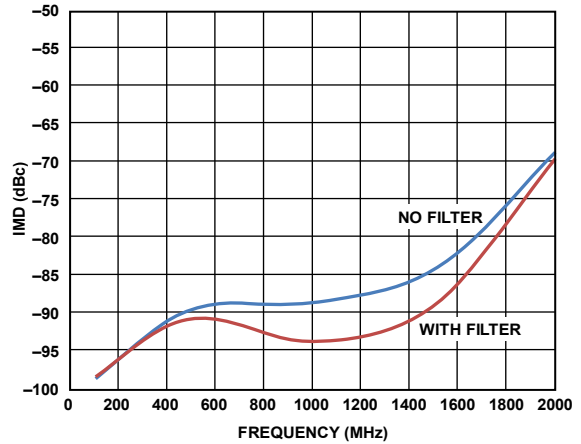
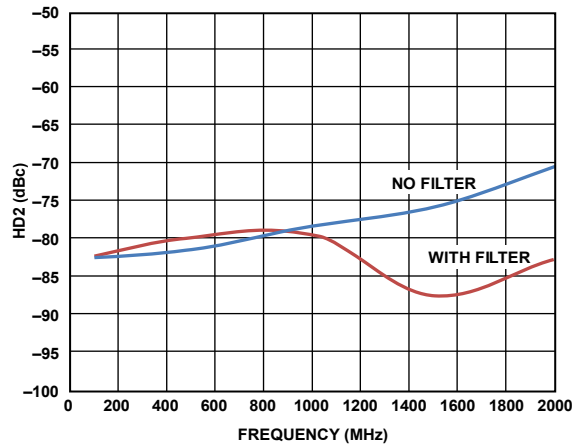

Figure 46. IMD vs. Frequency, with and Without LC Filter
Figure 47. HD2 vs. Frequency, with and Without LC Filter
The high frequency distortion performance of the ADA4961 can be enhanced by adding a low-pass filter to the output (see Figure 46 and Figure 47). A two-pole low-pass filter is used in the ADC Driving section to illustrate the distortion improvement capabilities and integrated noise reduction. Figure 49 shows a simplified diagram of a two-pole low-pass (LP) filter. The inductor capacitance (LC) values are 2 nH and 2 pF respectively. This filter gives an overall -3 dB BW of 2 GHz when connected to the ADA4961. Ideally, the BW is 3.5 GHz without any parasitics. The parasitic, C, (about 1 pF) across the 2 nH inductor (not shown) reduces the BW to about 2.1 GHz.